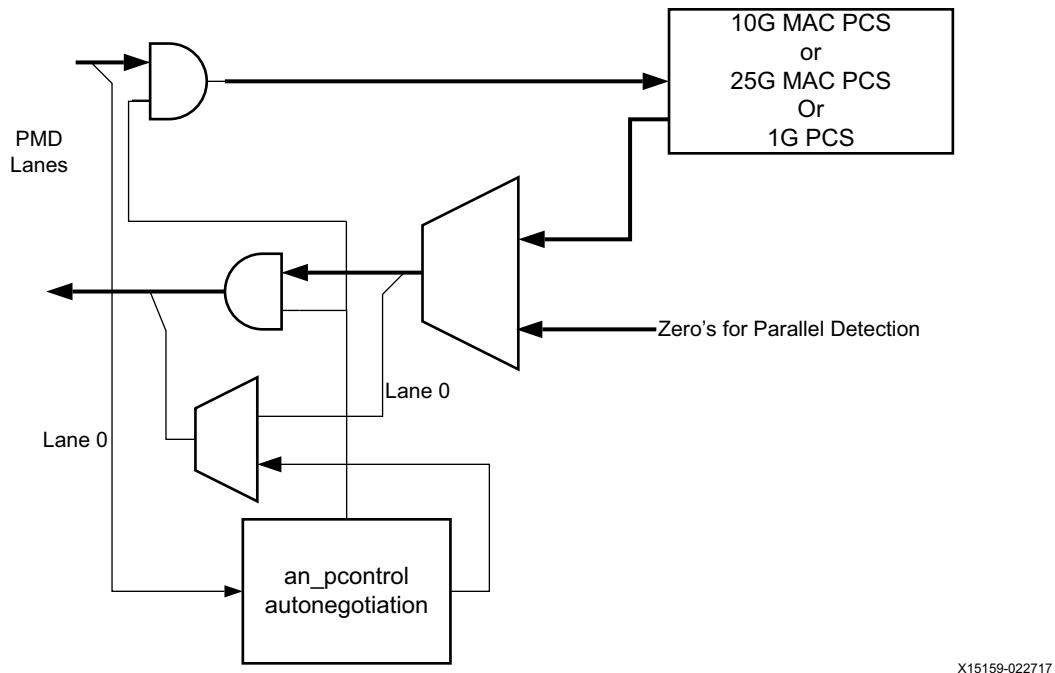

Figure 3-11: Core with Auto-Negotiation
A block diagram of the 10G/25G Ethernet core with Auto-Negotiation (AN) with parallel detection is shown in Figure 3-11.
When auto-negotiation is complete, the datapath is switched to mission mode (the PCS), as shown in Figure 3-11.